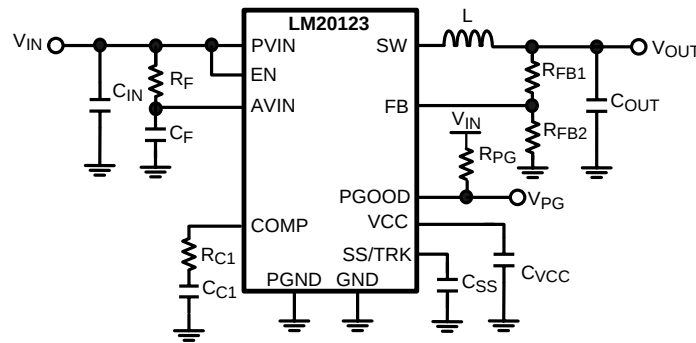

Figure 25. Typical Application Circuit
The LM20123 switching regulator features all of the functions necessary to implement an efficient low voltage buck regulator using a minimum number of external components. This easy to use regulator features two integrated switches and is capable of supplying up to 3A of continuous output current. The regulator utilizes peak current mode control with nonlinear slope compensation to optimize stability and transient response over the entire output voltage range. Peak current mode control also provides inherent line feed-forward, cycle-by-cycle current limiting and easy loop compensation. The fixed 1.5 MHz operating frequency minimizes the inductor size while still achieving efficiencies up to 96%. The precision internal voltage reference allows the output to be set as low as 0.8V. Fault protection features include: current limiting, thermal shutdown, over voltage protection, and shutdown capability. The device is available in the HTSSOP 16-Pin package featuring an exposed pad to aid thermal dissipation. The LM20123 can be used in numerous applications to efficiently step-down from a 5V or 3.3V bus. The typical application circuit for the LM20123 is shown in Figure 25 in the design guide.
This section walks the designer through the steps necessary to select the external components to build a fully functional power supply. As with any DC-DC converter numerous trade-offs are possible to optimize the design for efficiency, size, or performance. These will be taken into account and highlighted throughout this discussion. To facilitate component selection discussions the circuit shown in Figure 25 below may be used as a reference. Unless otherwise indicated all formulas assume units of amps (A) for current, farads (F) for capacitance, henries (H) for inductance and volts (V) for voltages.
To prevent high frequency noise spikes from disturbing the sensitive analog circuitry connected to the AVIN and AGND pins, a high frequency RC filter is required between PVIN and AVIN. These components are shown in Figure 25. as C_F and R_F . The required value for R_F is 1Ω. C_F must be used. Recommended value of C_F is 1.0 μF. The filter capacitor, C_F should be placed as close to the IC as possible with a direct connection from AVIN to AGND. A good quality X5R or X7R ceramic capacitor should be used for C_F .